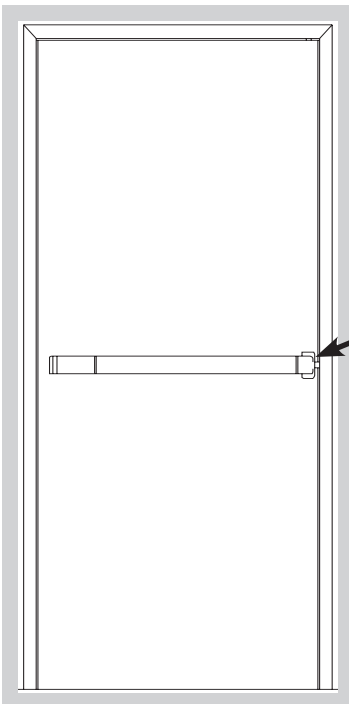

Fig. 17
- 3** Drill and tap through frame and reinforcement for closer shoe attachment (Fig. 17).
- 3** Drill and tap through frame and reinforcement for hardware attachment (Fig. 17).